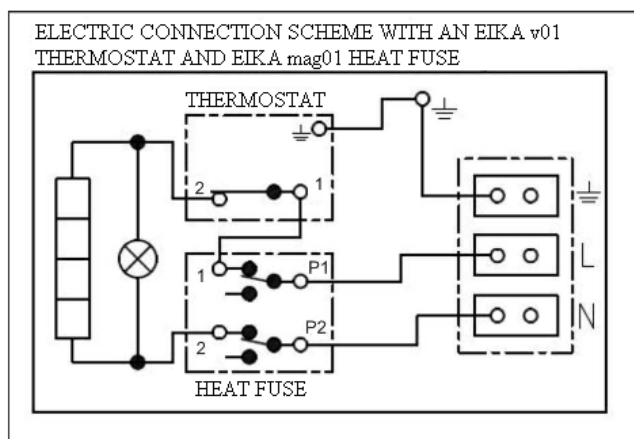

Figure 5
- The electric wiring scheme is attached to the water heater on the side of the electric installation guard (see also Figure 5).